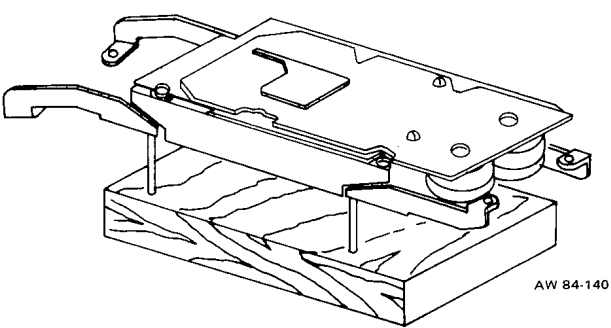

Figure 5: Holding Fixture
- (a) Place the dial face down on a holding fixture. (See Figure 5.)
- (a) Place the cover plate face down on a holding fixture. (See Figure 5.)